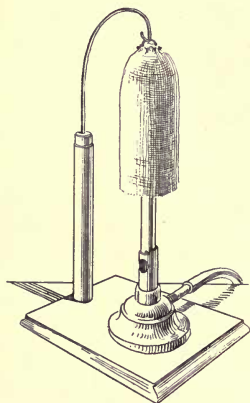

FIG. 22.— Gas mantle.
**Welsbach gas burners.** The intensely hot flame of the Bunsen burner, although it is itself non-luminous, may be used to produce a bright light. The oxides of certain rare metals, when heated to a high temperature, glow brightly. By immersing a loosely woven cotton wick in a solution of the mixed nitrates of these metals, drying it, and then burning the cotton, the nitrates decompose, forming oxides, which are left in the shape of the original wick. The result would be too delicate to transport. It is therefore dipped in collodion. This forms a flexible protective coating over the whole. In this form you buy it as the mantle of a Welsbach burner (Fig. 22). When the mantle is placed in position and set on fire, the collodion burns off,